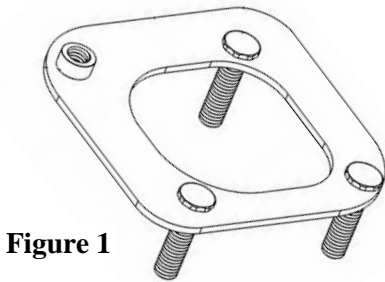

Figure 1
3. Using the correct right or left lower plate, insert the plate studs down into the top of the existing three factory holes, center the studs in the slots and mark the fourth (threaded) hole onto the chassis. (Figure 1, 2, 3)